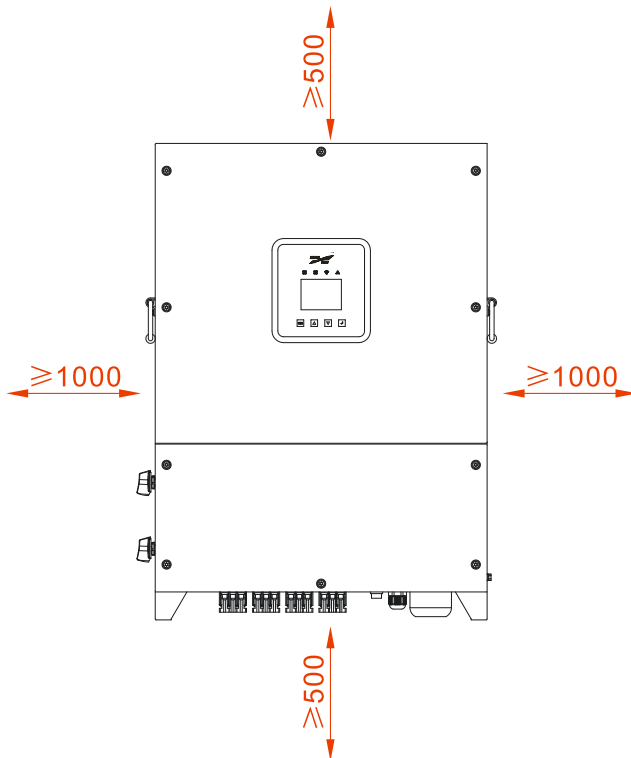
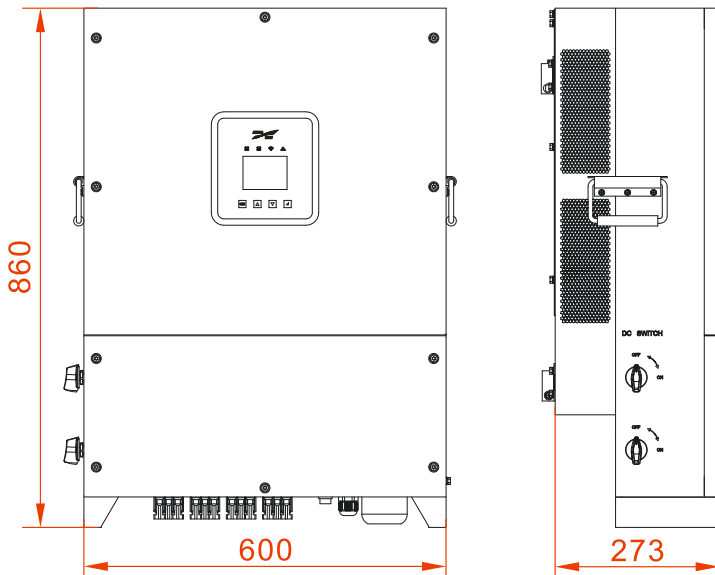

Figure3-2 Installation clearance
Figure3-4 The dimensions of inverter(Unit: mm)
Keep a clearance of at least 1000mm from the left side and right side of inverter to other objects, at least 500mm from the top of inverter to ceiling and at least 500mm from the bottom of inverter to ground, which is good for heat dissipation or maintenance, as shown in Figure3-2.
- Step 1 Determine the installation site according to the dimensions of inverter(as shown in Figure3-4) and installation clearance requirements(as shown in Figure3-2).